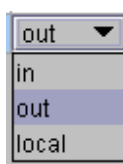

Figure 52 : I/O orientation
- ◆ To modify the orientation of an **I/O**, click on the **Orientation** cell in the associated line with the mouse left and then right button; in the pull-down menu, assign the flow orientation (Figure 52). The possible values are the following: